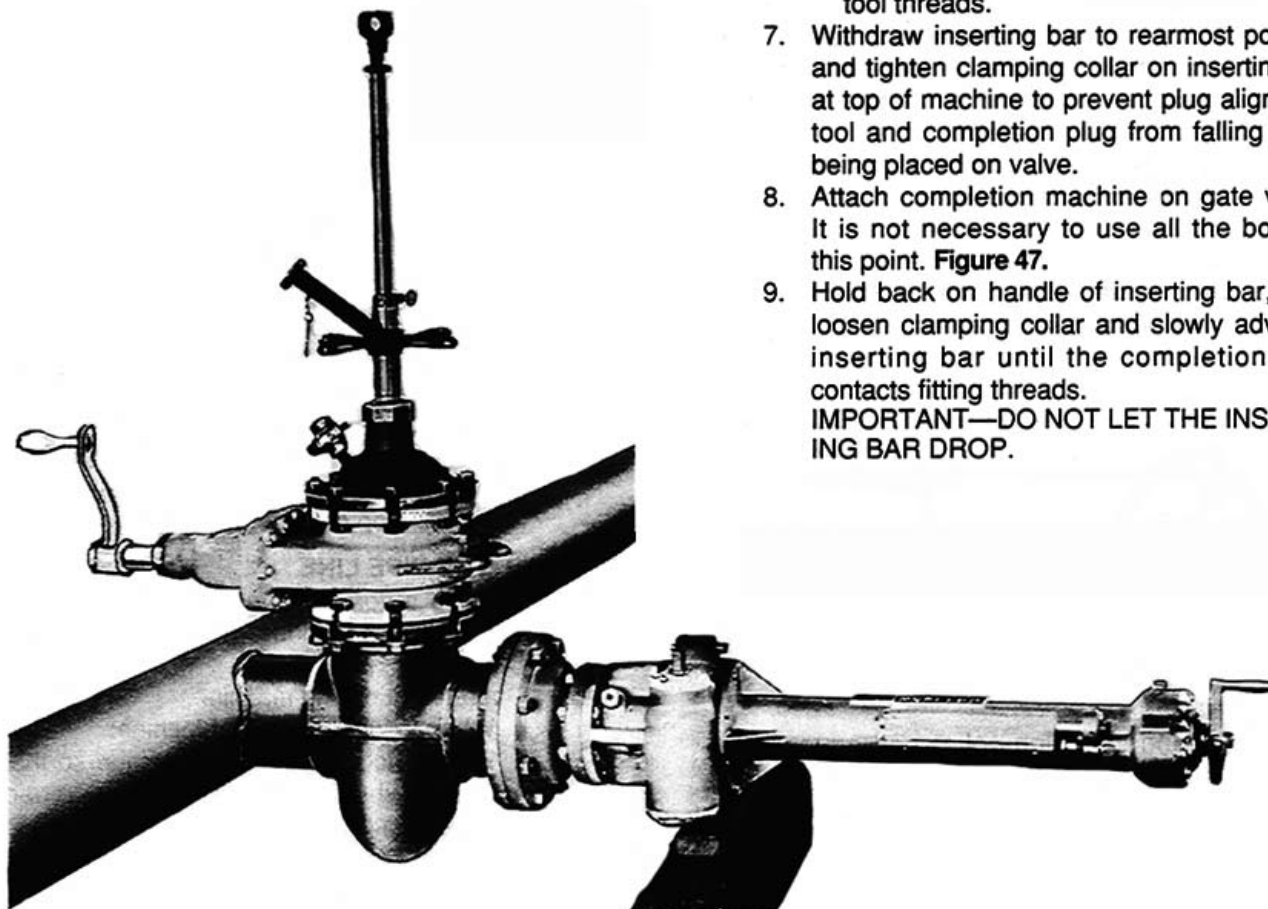

FIGURE 47
8. Attach completion machine on gate valve. It is not necessary to use all the bolts at this point. Figure 47.